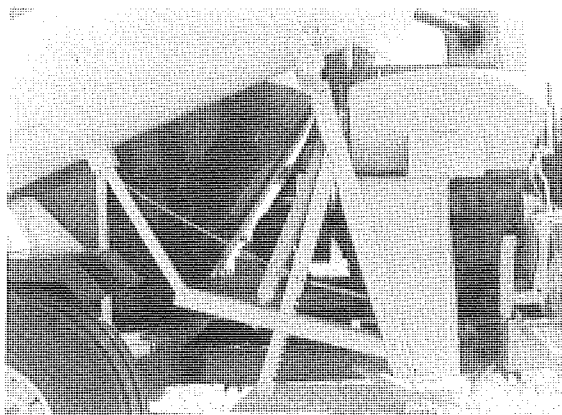

**FIGURE 16 - AUGER FEEDER SWING BRAKE**
The auger feeder brake prevents the auger feeder from swinging. Tighten or loosen as desired (see figure 16).
**NOTE:** If machine is equipped with an electronic scale, to obtain a more accurate reading **DO NOT** rest auger feeder on the ground. Place in position and set swing brake (see figure 16).